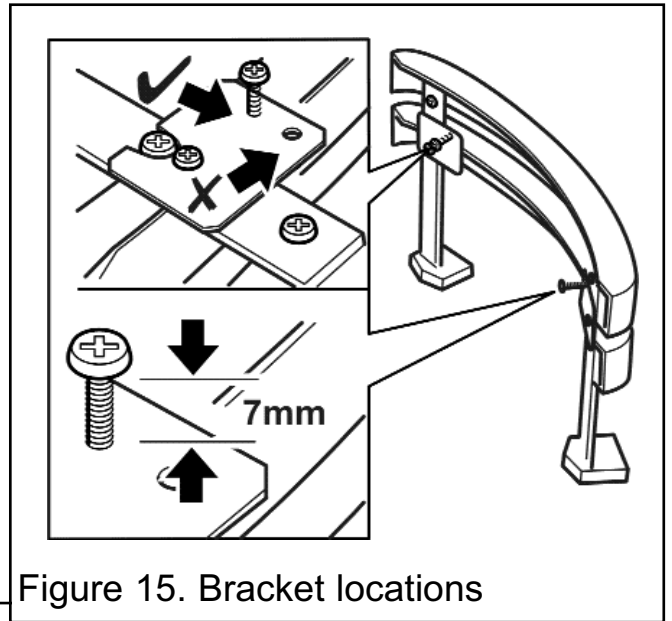

Figure 15. Bracket locations
2. The screw should be set at a distance of 7mm (Measured from the surface of the bracket to the underside of the screw head). Adjust the screw to this distance (See figure 15).